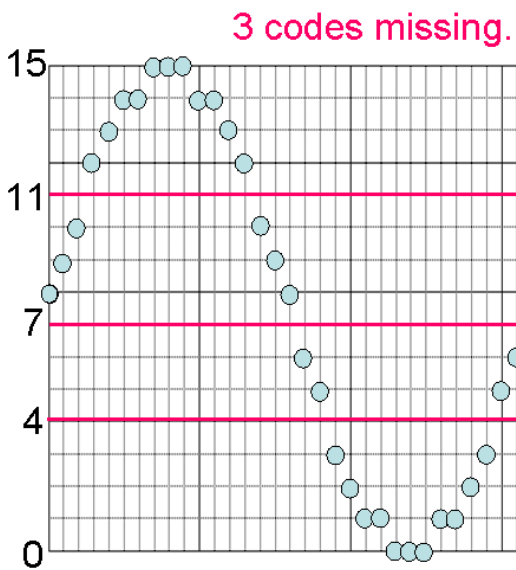
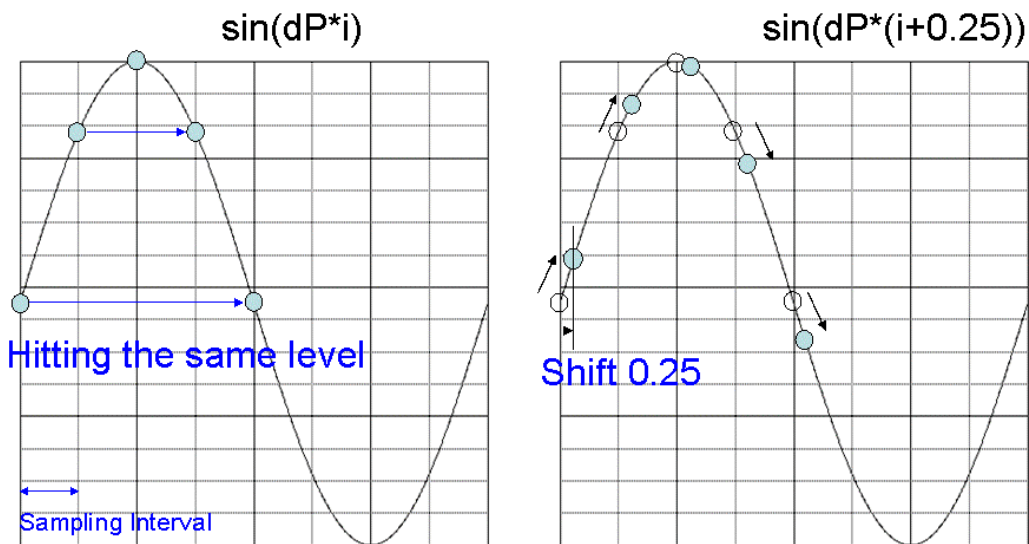

Figure 8. DAC Data programming (1).
Figure 9. Phase shift 0.25.
Casting by INT with offset 0.5 is a typical practice of rounding to make it an integer. Look at Figure 8 showing the data created with this program.
All available codes from 0 to 15 should be created, but Figure 8 shows there are three missing codes: 4, 7 and 11. What happened? Is the conclusion of Equation (16) wrong? No, it isn't. This is a programming problem. You can see that Figure 8 is symmetrical, meaning the data hit the same levels as shown in the left graph in Figure 9. This causes the problem.
You should modify it by applying the phase offset 0.25 in the sampling period as shown in the right graph in Figure 9. The sampling points are slightly shifted, and do not hit the same level with each other. This is the point. The source code should be modified as below.